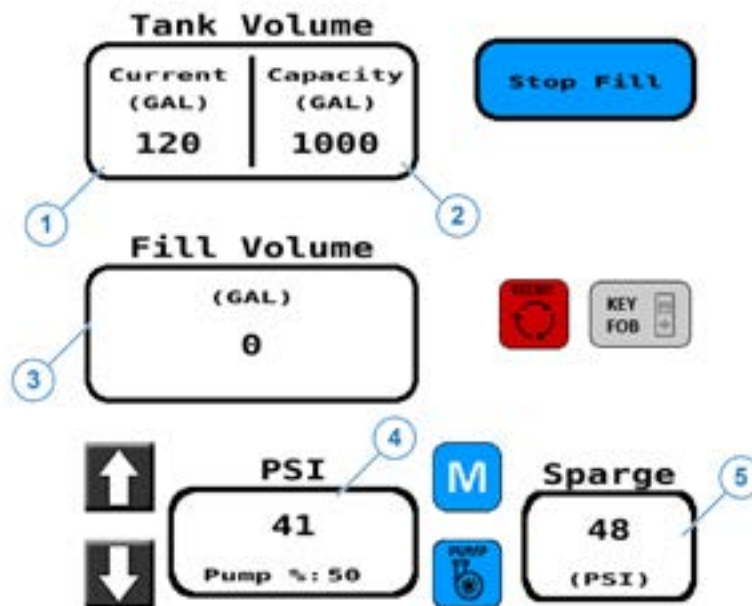

Figure 38: Fill Station Monitor Text Areas
1. The Current tank capacity is displayed under Tank Volume Current (Figure 38, Item 1). This volume will automatically be transferred to/from the PinPoint III VT.
2. The Total tank Capacity is displayed under Capacity (Figure 38, Item 2). This volume will automatically be transferred to/from the PinPoint III VT.
3. The Fill Volume text area (Figure 38, Item 3) displays the volume of liquid transferred to the sprayer as counted by the Fill Flowmeter.
4. The Boom Pressure is displayed under the PSI text area (Figure 38, Item 4).
5. The Sparge Pressure is displayed under the Sparge text area (Figure 38, Item 5).